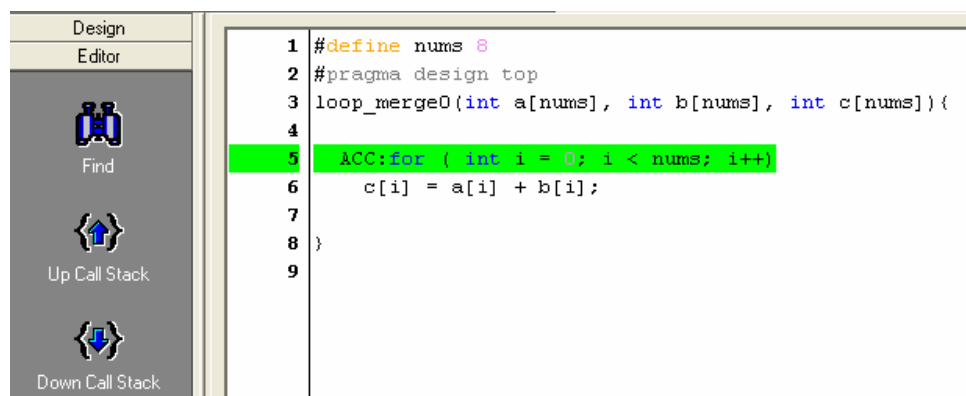

Figure 6 Cross-probing to the C++ Source
- ✓ Double-click on “LOOP ACC” in the loop hierarchy window. This will bring up the text editor and high light the related section of code (Figure 6).